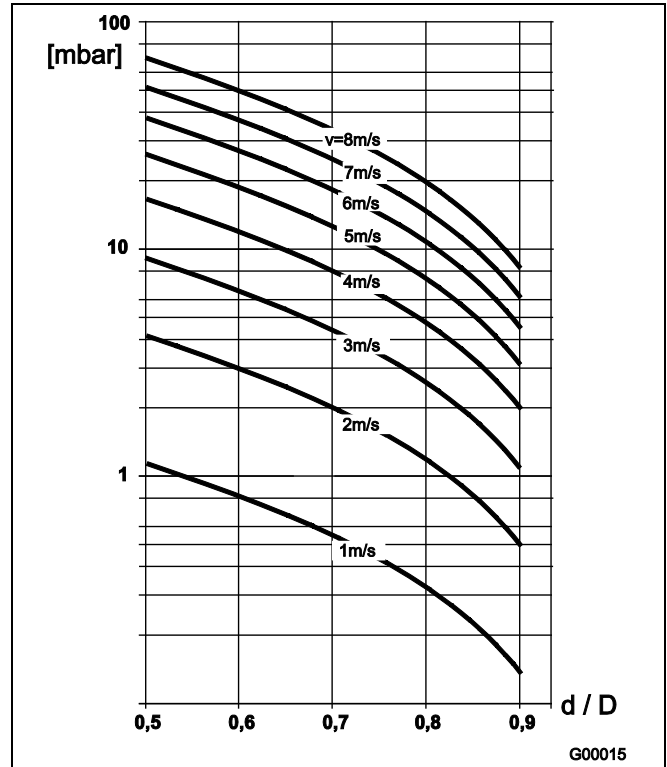

Fig. 32
2. Determine the flow velocity based on the flow range nomograph (Fig. 32).
3. Read the pressure drop on the Y-axis in Fig. 32.